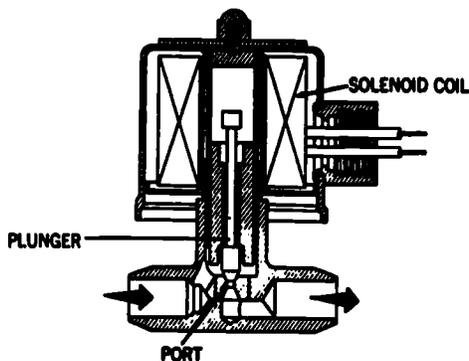
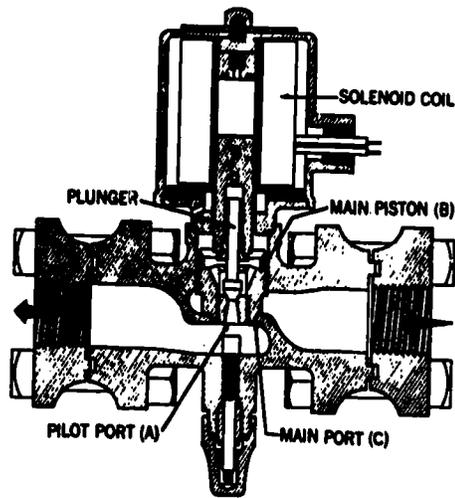

Fig 4-5. Solenoid (direct-acting).
Fig 4-6. Solenoid (pilot-operated).
**SOLENOID VALVES** in refrigeration systems automatically close off or open a circuit to produce the desired refrigerating effect. It is simply an electromagnetic device with a moveable core (center) and an armature. This armature (made of iron alloy) is attached to a moveable needle. The basic principle of a solenoid is illustrated in figure 4-5. When the solenoid coil is energized, the magnetic armature, or plunger, moves upward toward the center of the coil, thus opening the valve. When the circuit opens, the coil de-energizes and the spring and the weight of the plunger forces the valve against the valve seat, thereby closing the valve.
There are two basic types for solenoid valves that you may find in use: the **DIRECT-ACTING** (fig 4-5) and the **PILOT-OPERATED** (fig 4-6). In the direct-acting type, the pull of the coil opens the valve port directly by lifting the pin out of the valve seat. Since this valve depends solely on the power of the solenoid coil for operation, its port size, for a given pressure differential, is limited by the coil size.
Large solenoid valves are usually of the pilot-operated design. With this type, the solenoid plunger does not open the main port directly, but merely opens the pilot port (A), refer to figure 4-6. Pressure trapped on top of the piston (B) is released through the pilot port, thus creating a pressure imbalance across the piston (B). Because the pressure underneath is now greater than the one above, the piston moves upward. This opens the main port (C). To close port (C), the coil is de-energized, causing the plunger to drop and close the pilot port (A). Now the pressure above and below piston (B) equalizes. Piston (B) will close the main port (C). The pressure difference across the valve, acting on the area of the valve seat, holds the piston closed tightly.